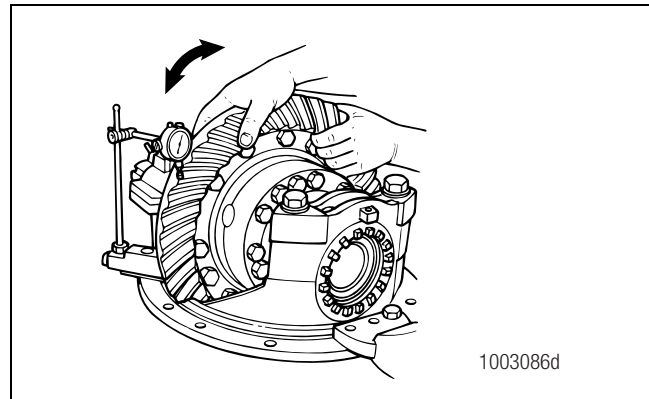

Figure 5.62
1. Attach a dial indicator onto the carrier mounting flange. Figure 5.62.